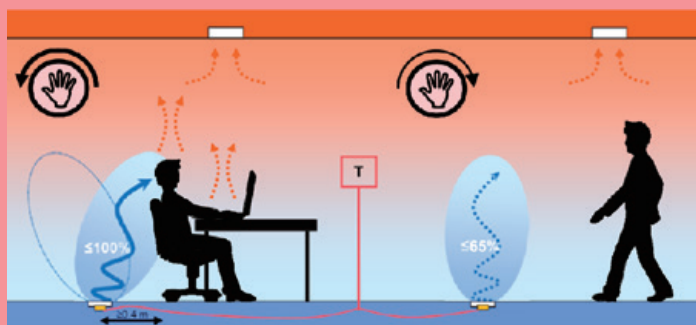

Figure 5
- **Option “V = Vertical”** (figure 5)
- Includes items 5 to 11 above.
- Optional Configuration “V = Vertical” (figure 5):